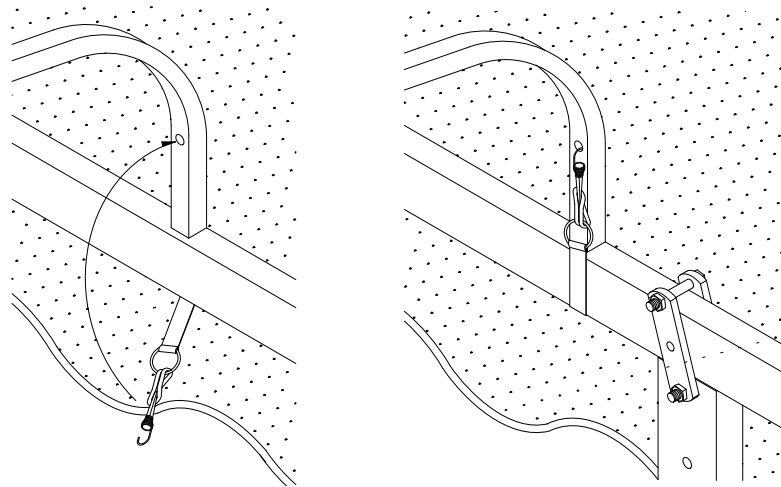

Figure 2-9
16. Refer to **Figure 2-9**. Wrap a bungee cord around the ring in the tie down strap and thread hook end through loop. Attach hook end to hole in canopy rib as shown.